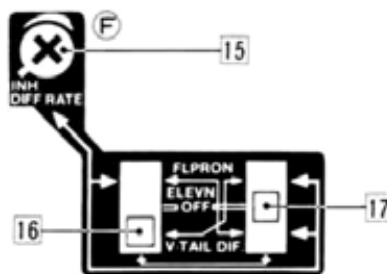

Fig. 79
- Set Switches 16 and 17 as shown in Fig. 79.